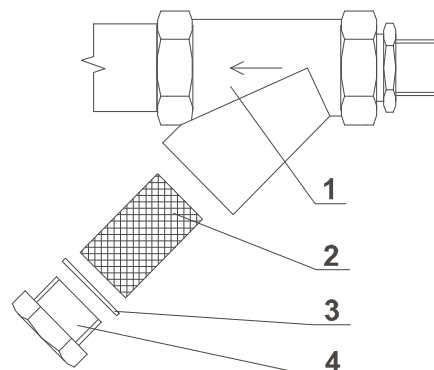

Figure 9.10.
2. Unscrew the filter plug, Figure 9.10, pos.4 and remove the filter sieve (2).
4. Put the sieve (2) and gasket (3) back to the filter body (1) and tighten the plug (4).